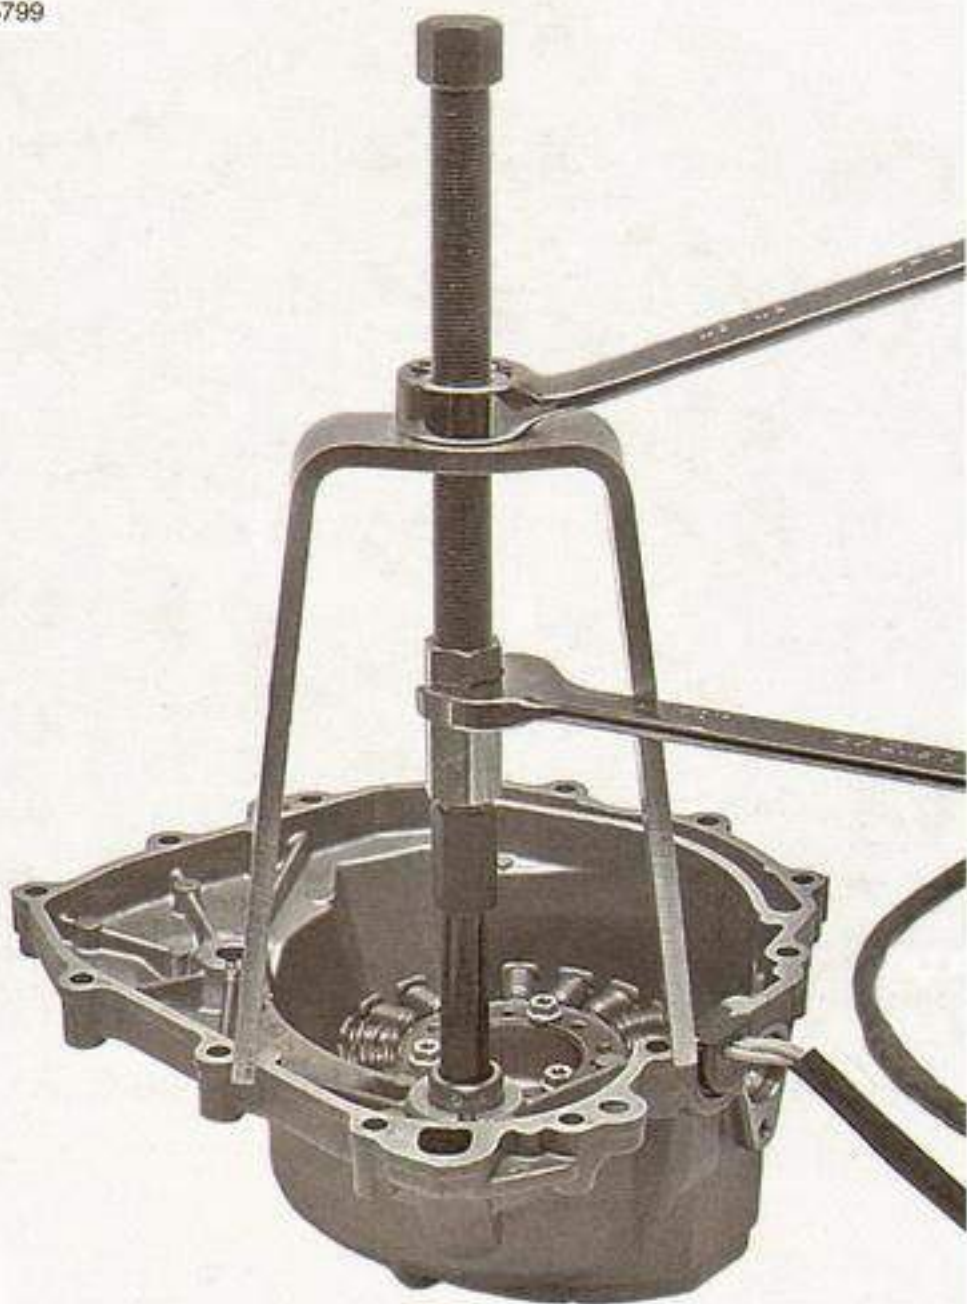

Figure 3-152. Bushing and Bearing Puller
- a. See Figure 3-152. Use the BUSHING AND BEARING PULLER (Part No. HD-95760-69A) with the COLLET, 5/8" (Part No. HD-95766-69A) to remove the bearing from the cover.